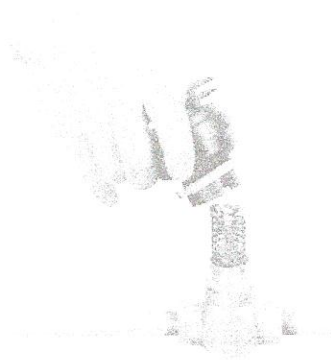

Figure 2: Tilt the actuator over the spring and slide into place.
3. Tilt the actuator and slide it over the valve spring as shown in Figure 2.